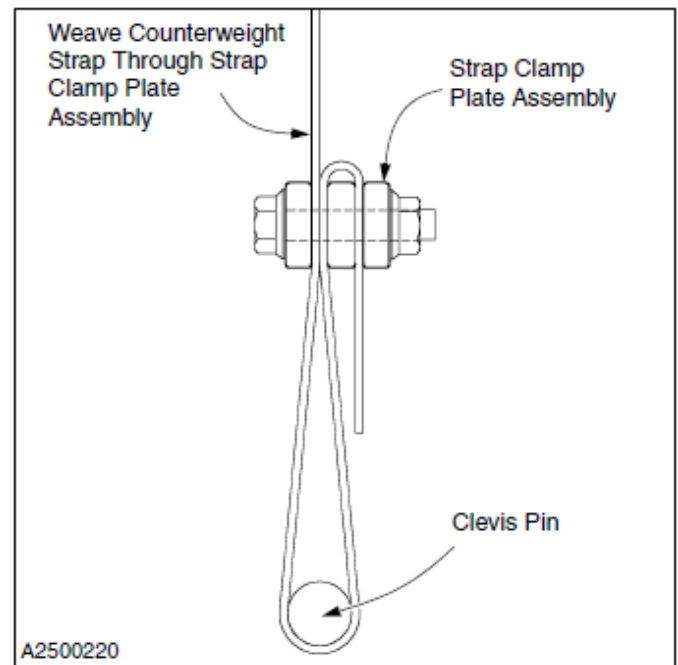

Figure 80
8. Remove the strap clamp plate assembly from the old strap. Then weave the free end of the new strap through the plate assembly as shown in Figure 80.